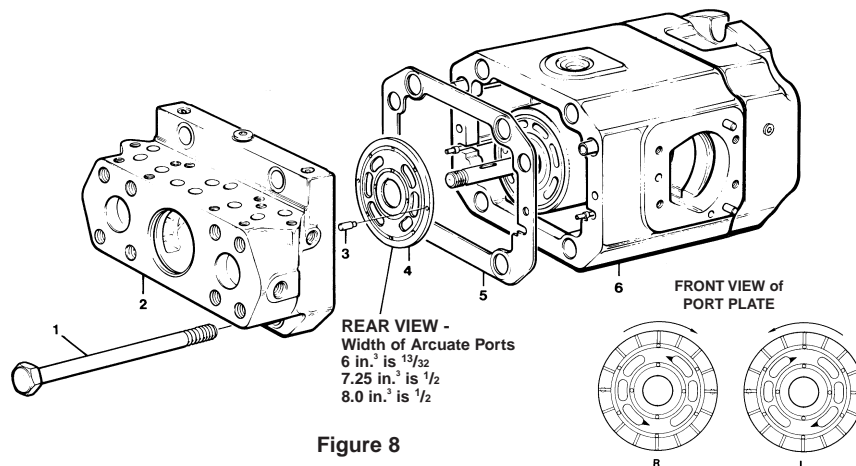

Figure 8
See figure 8: Position the pump with the unplugged hole in the housing assembly at 12 o'clock position.
**PARTS LIST FOR FIGURE 8**